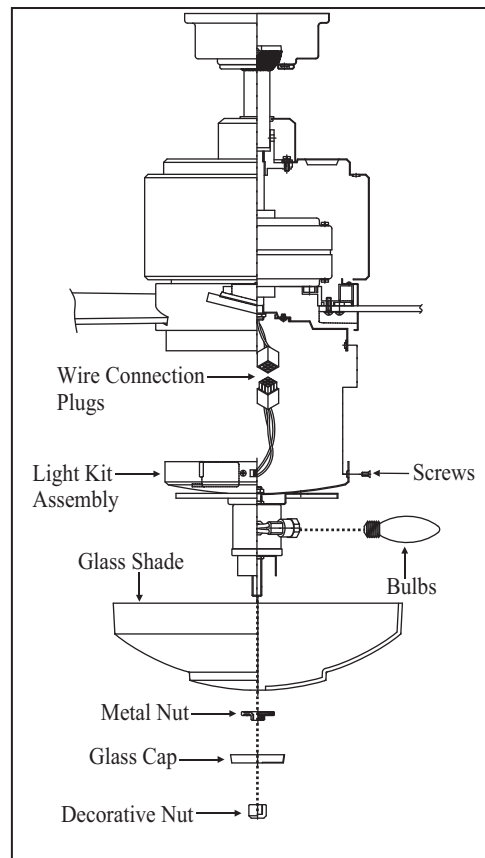

Figure 18
3. While holding the light kit assembly under your fan, snap together the wire connection plugs. (Fig. 18)
4. Carefully push all wires back into the switch housing, then install the light kit assembly onto the mounting plate with 3 screws provided. Be sure to tighten all screws. (Fig. 18)
6. Remove the metal nut, glass cap and decorative nut from the light kit. Place glass shade over the light kit stem, secure with the metal nut (rubber side on the top), glass cap and decorative nut. Do not overtighten (Fig. 18).